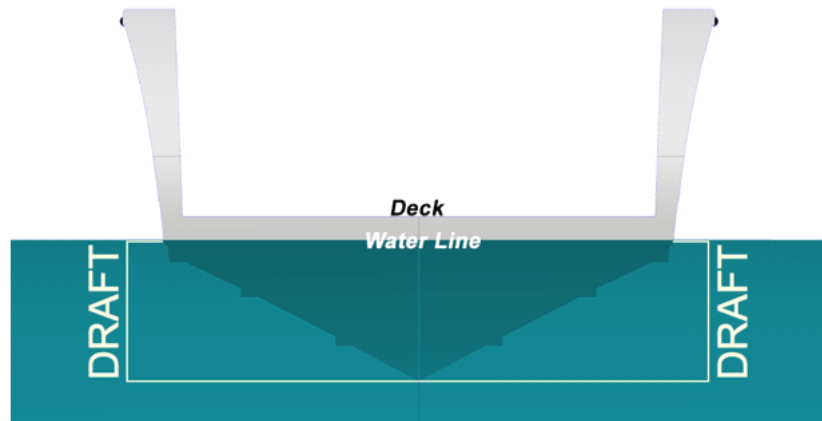

Figure 10.2: Draft of a vessel. From seabornboats.com
- Suppose you make a boat out of steel, but allow for air gaps inside the boat (e.g. like Figure 10.2, but with a hollow hull under the water). What would you need to do to ensure a boat made from this material will float? *$\frac{M_{\text{boat}}}{\rho_{\text{water}} V_{\text{boat}}} < 1$*
This question introduces some new concepts: *Heave* is vertical motion of a boat. In static equilibrium a boat will tend not to heave: In equilibrium the distance between the waterline and the bottom of the hull is called *draft*, as seen in Figure 10.2. We call the line the water makes across a section of the hull a *waterline*.
5. Suppose you make a boat out of steel, but allow for air gaps inside the boat (e.g. like Figure 10.2, but with a hollow hull under the water). What would you need to do to ensure a boat made from this material will float?